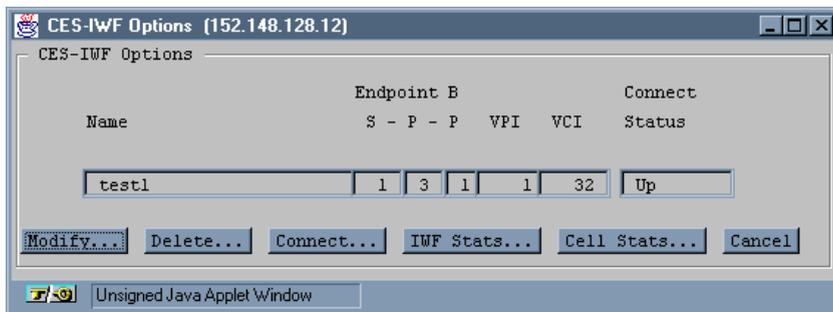

Figure 6-24. CES-IWF Options Window
2. Select the interworking function you wish to view from the Configured CES Connections list. The CES-IWF Options window appears (Figure 6-24).